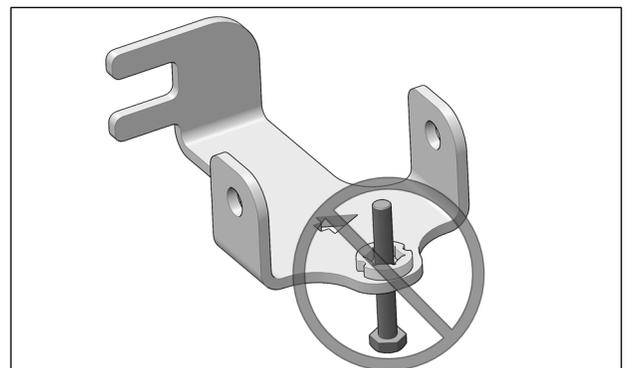

Fig. 4
**CAUTION:** Make sure that the bolt is inserted in the right direction. See Fig. 4